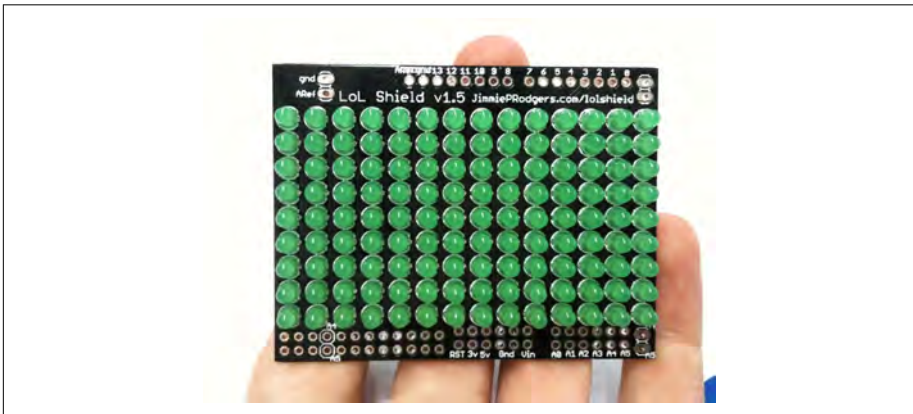

Figure 8-63. Adafruit 9 × 14 LED array shield
- Adafruit LoL Shield (Figure 8-63)